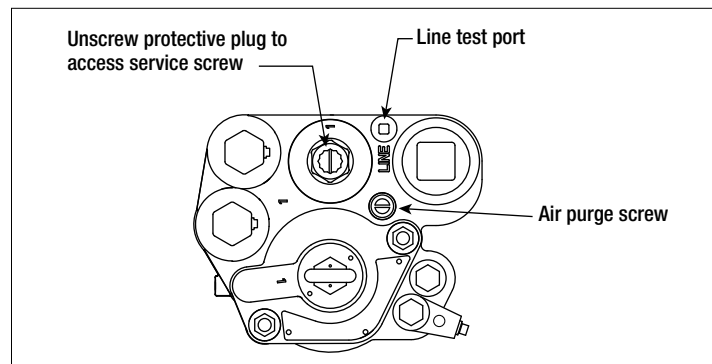

Figure 26. Service Screw, Line Test Port, and Air Purge Screw Locations
3. Remove line test port plug (see Figure 26). Apply line test pressure at line test port (50 psi [345 kPa] maximum).
6. Turn the air purge screw 2 - 3 turns counterclockwise (see Figure 26).
1. Remove and retain the protective plug over service screw and turn the screw clockwise (see Figure 26). As the screw approaches its bottom position, you will hear the system depressurizing. Continue turning the screw until it can go no further.
5. Turn the air purge screw 2 - 3 turns counterclockwise (see Figure 26).